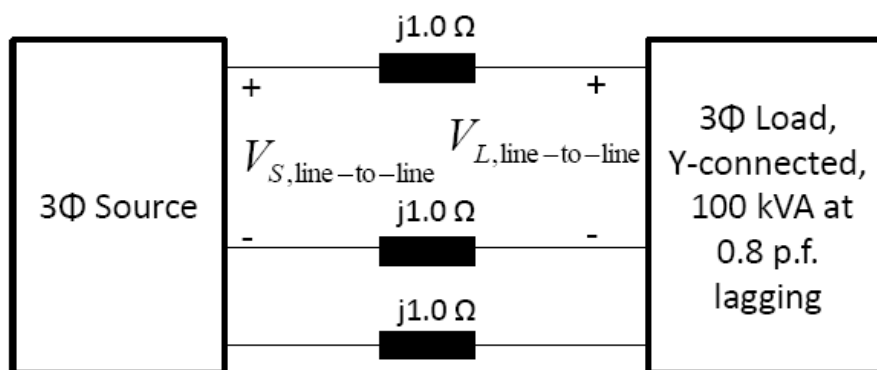

Fig. Q1.2
- b. A three-phase 50 Hz voltage source feeds a three-phase balanced load shown in Fig. Q1.2. The three-phase balanced load is wye-connected and absorbs a total of 100 kVA at 0.8 p.f. lagging. If the line-to-line voltage at the terminal of the load is 230 V(rms), find the magnitude of the line-to-line voltage at the source.